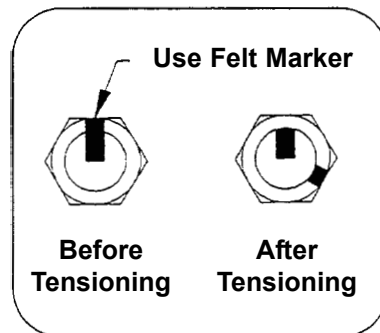
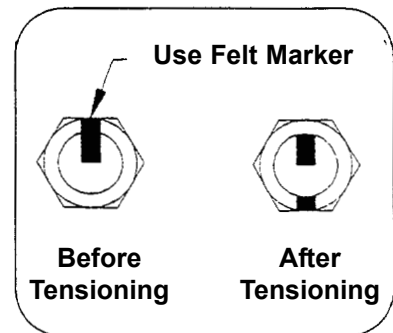

Figure 2-1a: A-325 Tensioning Procedure For bolts less than 4 diameters
Figure 2-1b: A-325 Tensioning Procedure For bolts over 4 diameters
- Step 5** Using a felt-tip marker, mark the nuts and the ends of the bolts with a straight line as shown in Figure 2-1a and Figure 2-1b.
- Step 6** Tighten the nuts further with an extra long wrench until the nuts are moved 1/3 turn (120 degrees) as shown in **Figure 2-1a for bolt lengths less than four diameters** and 1/2 turn (180 degrees) as shown in **Figure 2-1b for bolt lengths over four diameters**.